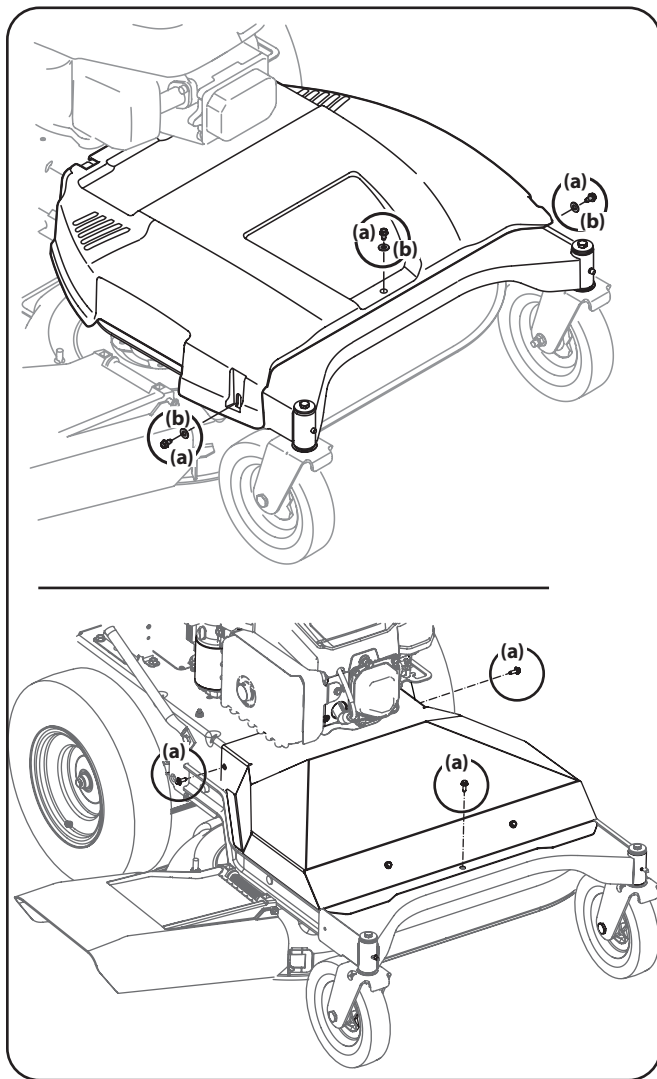

Figure 7-1
1. Remove the belt cover by removing the three screws (a) and washers (b) (if equipped) which secure it to the frame. See Figure 7-1 for hardware location according to belt cover shape.
2. Remove the belt cover as instructed in Step 1 of Cutting Deck Removal on page 20. See Figure 7-1.